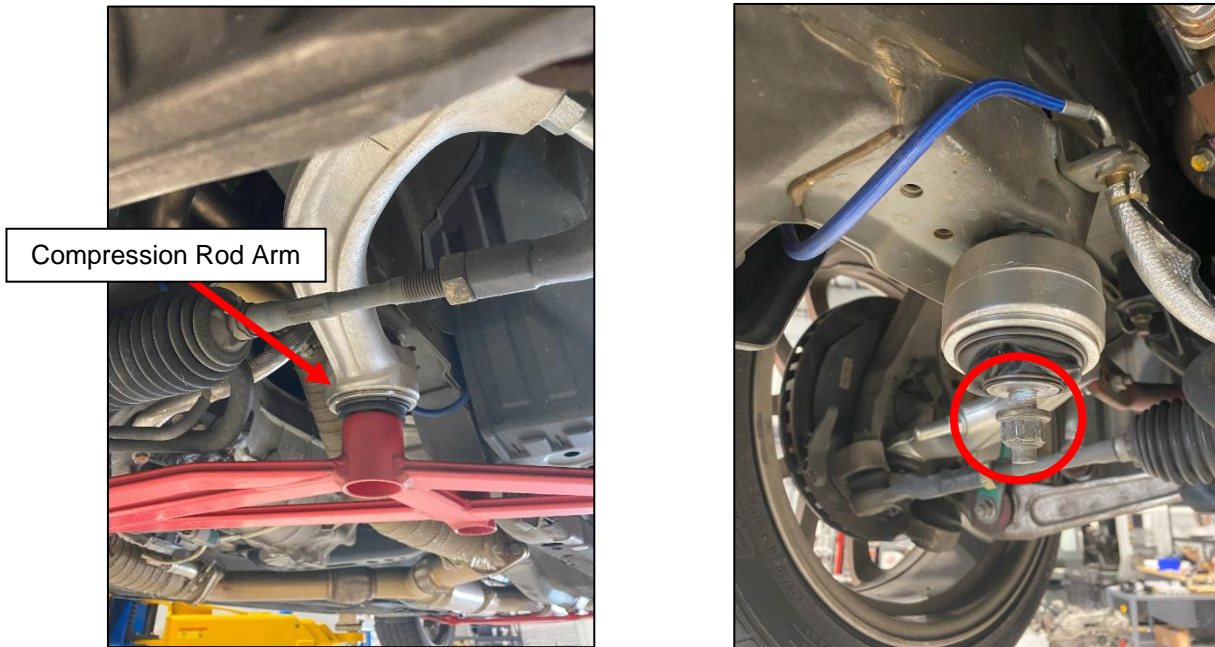

Figure 1
5. If the Front Subframe Brace was removed, reinstall the (2) two bolts from the Support Compression Rod Arms as a preventative measure. *Figure 1.*